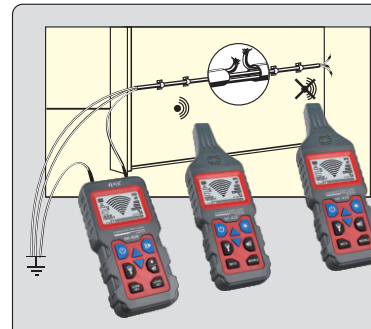

Fig 2-2
In this example, please take a piece of a shielded cable with a cross sectional area of 1.5mm² Provisionally install 5m of this cable along the wall with nail clips at eye level as surface mounting. Make sure that the wall is accessible from both sides. Create an artificial interruption at a distance of 1.5m before the line terminal. The line terminals must be open. Strip the interrupted lead at the beginning of the light shielded cable and connect it via the test leads (provided) with hole ① of the transmitter. Connect terminal ② of the transmitter to a suitable ground. All other cable leads must also be connected to the transmitter and the same ground (See Fig. 2-2).